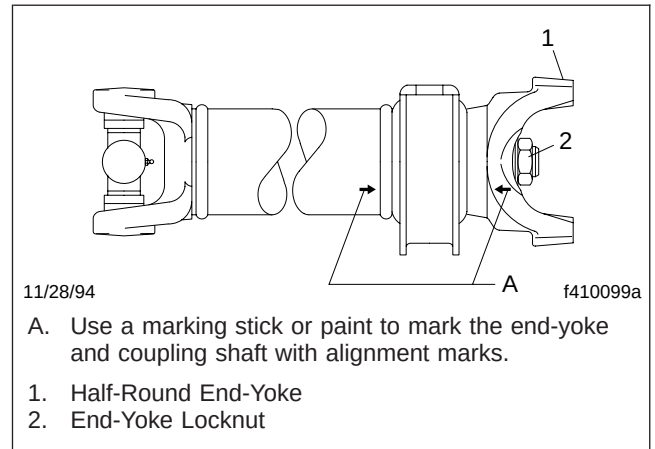

Fig. 16, Alignment Marks on a Coupling Shaft with an End-Yoke
- 3.1 Use a marking stick or paint to mark the end-yoke and coupling shaft with alignment marks. See Fig. 16.